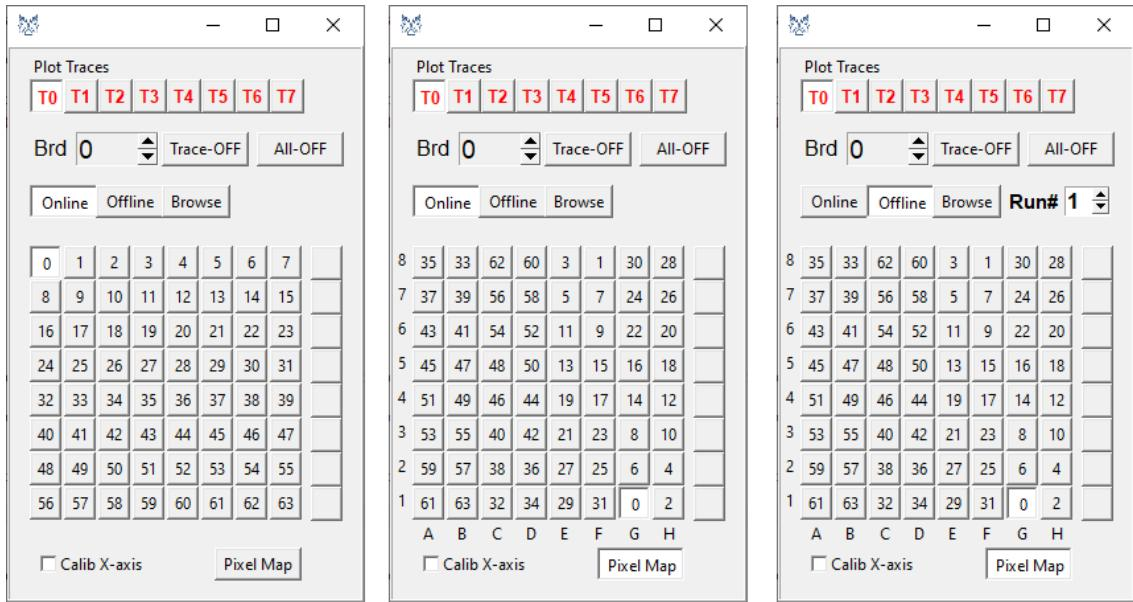

Fig. 3.7: Plot Traces window with the Pixel Map button disabled (on the left), enabled (in the middle) and with the Offline button enabled (on the right).
The Plot Traces command  allows the user to access the Plot Traces window (see Fig. 3.7) to manage the traces to be visualized in the gnuplot window. A maximum of 8 traces from different channels can be visualized at the same time.
- **Run#:** The command is active only when the Offline option is enabled in the Plot Traces window (see Fig. 3.7) and allows the user to select the ID of a previously saved run whose spectrum need to be visualized.
- **Pixel Map:** The button, if pressed, allows the user to visualize the correspondence between each channel and the physical position of the correspondent SiPM in a 8×8 SiPM matrix. For instance (see **Fig. 3.7** on the right), channel 50 is associated to the position D5 and thus corresponds to one of the central SiPMs of an 8×8 SiPM matrix. The pixel-channel association is loaded by Janus 5202 from the "pixel_map.txt" file in the "bin" folder.
- *Spect ToA.* Time of Arrival (ToA) spectrum (X-axis = ToA, Y-axis = Counts). The ToA is the time elapsed between the rising edge of a T_{ref} signal (defined by the **Tref Source** parameter) and the channel Time Discriminators (TD) self-triggers. In the case of Common Start Mode, the T_{ref} signal arrives before the trigger, so the ToA (which is then a ΔT) is positive. In Common Stop Mode, the T_{ref} signal arrives later and ΔT would be negative, but it is changed sign before being represented in the spectrum. The ToA has a dynamic range of up to 25 bits (1 LSB = 0.5 ns), or 16 bits when ToT is enabled. However, the spectrum is not made on 2^{25} nor 2^{16} channels, so a conversion factor is applied. The conversion is 1 LSB = 1 Channel and the value is truncated to the maximum number of channels which can be selected via the **ToA N Channels** parameter. For instance, in case the option "4K" is selected for the **ToA N Channels**, the maximum value represented for the ToA spectrum is $4096 \times 0.5 \text{ ns} = 2.048 \mu\text{s}$.
- To select the output from the Citroc-1A associated to channels from 0 to 31 the user has to select any channel from 0 to 31 for the first trace in the Plot Trace window (see **Fig. 3.7**). The same instructions can be followed to select the output from the other Citroc-1A chip.
- *2D-TrgRate.* Two-dimensional histogram (heat map) of the counts from all enabled channels. The pixels have coordinates from A to H for the X axis and from 1 to 8 for the Y axis. Pixel "A1" is the bottom left, "H8" is the top right. The correspondence between pixels and physical channels (from 0 to 63) is established on the basis of a text file named "pixel_map.txt" in the "bin" folder. The correspondence is visible also in the 2D plot (each pixel contains the channel ID number) or in the Plot Traces window (see **Fig. 3.7**) by pressing the Pixel Map button. If the "pixel_map.txt" file is not found, the default correspondence is A1 = CH0, A2 = CH1, ..., H8=CH63. The Z axis of the 2D plot displays the count rate (expressed in cps) of each channel.